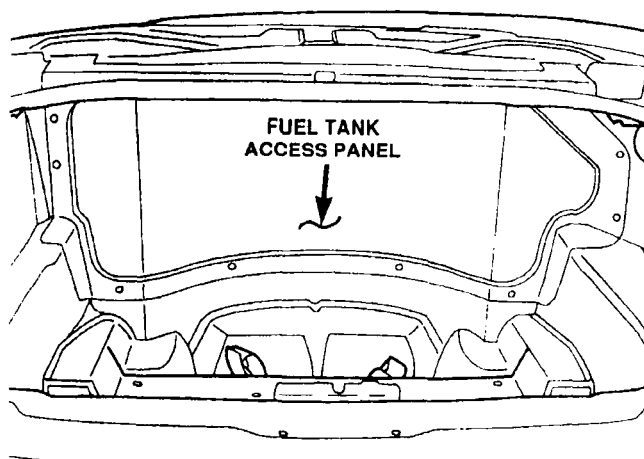

Figure 17
5. Using a suitable drill with a 1/8 inch (3 mm) drill bit, drill out the rivets that hold the fuel tank access panel to the trunk pan (Figure 17).